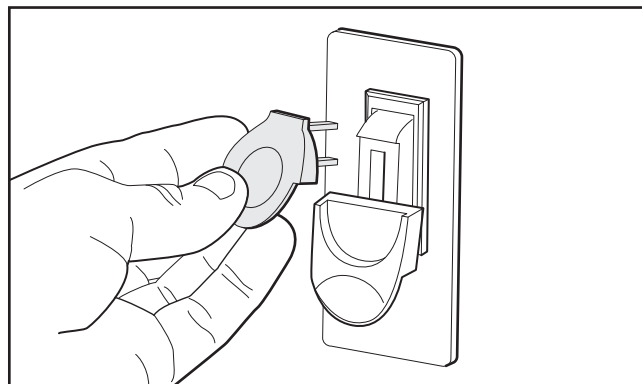

Figure 14. Removing switch key from paddle switch.
7. Remove the switch disabling key, as shown in **Figure 14**.